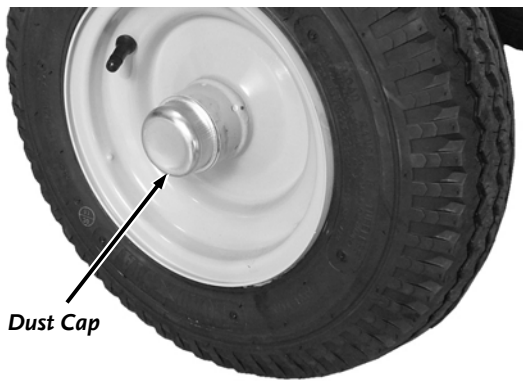

Figure 30
2. Remove the Dust Cap from the Wheel Assembly with Channel Lock Pliers (**Figure 30**).
11. Place the Dust Cap onto the Wheel Assembly Hub and work it into the Hub using a soft face Hammer (**Figure 30**).